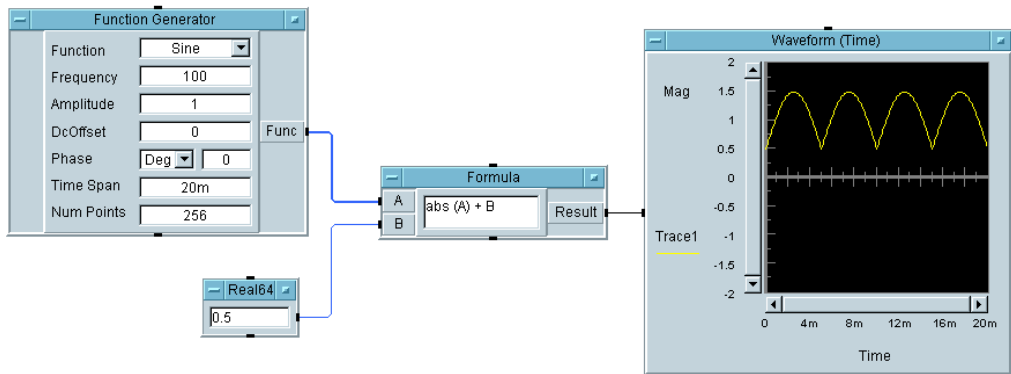

Figure 2-17. Creating a Formula Object Program
2. Select Device $\Rightarrow$ Formula to add the Formula object to the Main window. Add a second input (B) to the object by putting the mouse pointer in the input terminal area and clicking **Ctrl+A**.
6. Connect the objects as shown in Figure 2-17. Run the program.